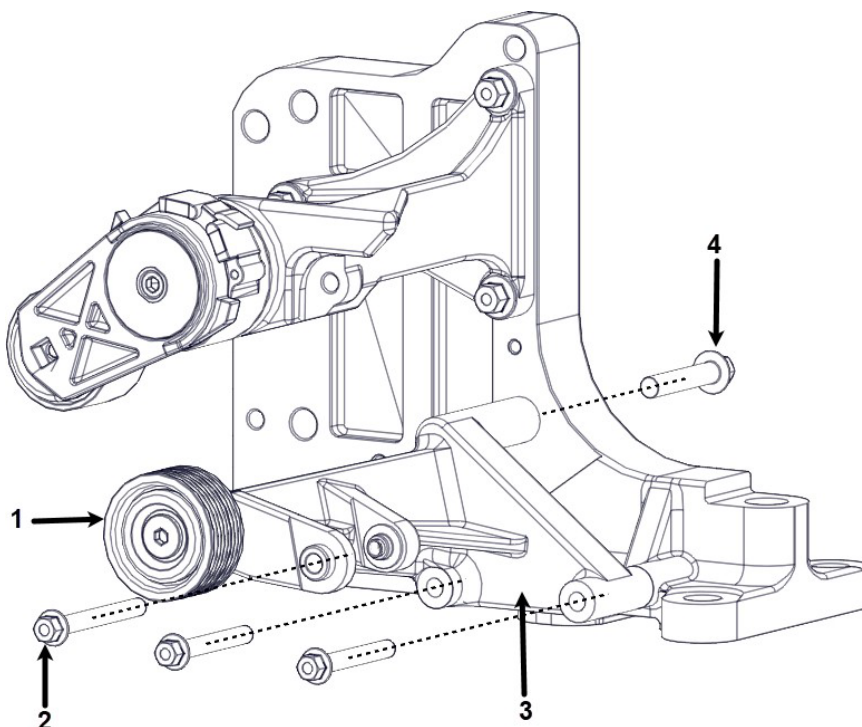

Figure 19. Left-Hand Idler Pulley Assembly
2. Remove the bolts (Figure 19, Item 2 & 4).
3. Remove the left-hand idler pulley (Figure 19, Item 3).
1. Place the left-hand idler pulley bracket (Figure 19, item 3) onto the engine mount bracket.
2. Insert and torque down the bolts (Figure 19, items 2 & 4).